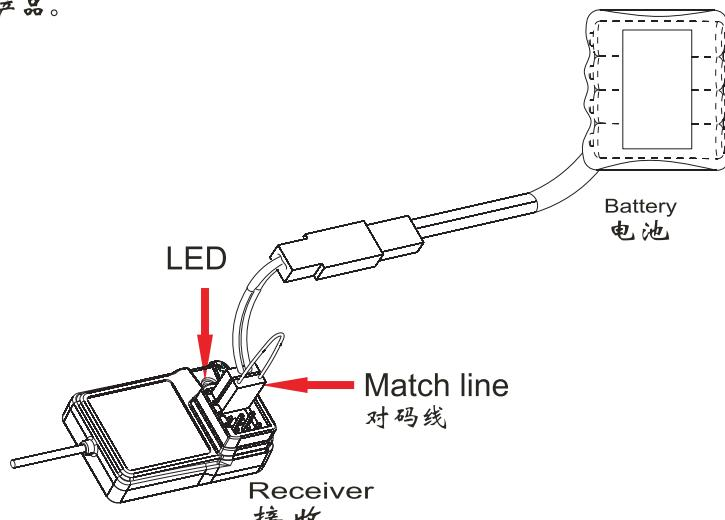

Figure 1 (图1)
- B. Insert the matching lines to the channel BIND / CH3 port of the receiver. (Figure.1) .
2. 将配对线插入接收机的BIND/CH3通道接口（如图1）。